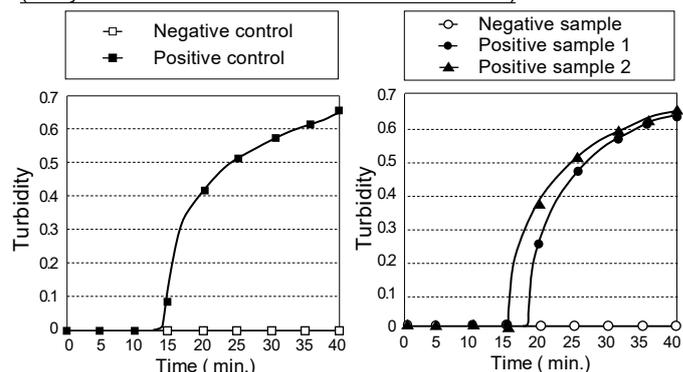

Fig. 1 : Amplification plots for controls. Fig. 2 : Amplification plots for samples.
- (1) Configure the Real-Time Turbidimeter HumaTurb C+A for detection with this product.
- (2) Check whether the displayed temperature reaches 65.0 °C (allow the turbidimeter to warm up for 20 minutes before use).
- (3) Place the reaction tubes and start measurement.
- (4) Watch the turbidimeter display to check the positive and negative controls for any increase in the turbidity. If the turbidity increases in the positive control but not in the negative control, the amplification reaction is proceeding correctly (Fig. 1). If this is not the case, the amplification reaction might be proceeding the wrong way. In such a case, retest the affected samples.
- (5) Confirm the completion of polymerase inactivation (automatically completed by the turbidimeter). Take all reaction tubes out of the Real-Time Turbidimeter HumaTurb C+A and discard them without opening.
After confirming that the turbidity increases in the positive control but not in the negative control, evaluate samples per the following criteria (Figs. 1 and 2):